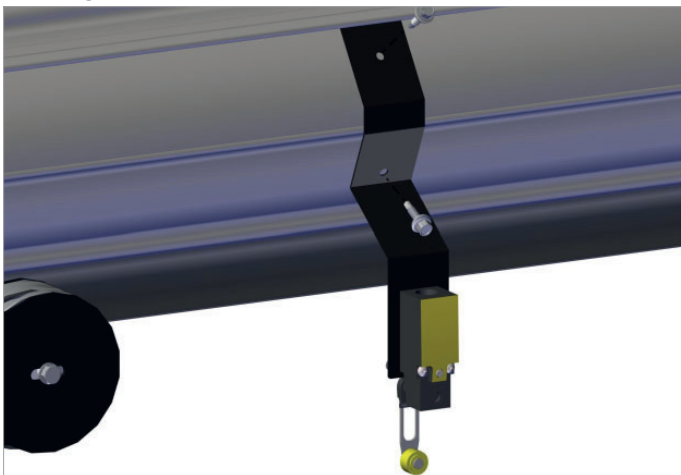

Fig. 5.3.7 Mounting the CRS Auto Return Switch bracket
- Mount the CRS Auto Return Switch bracket 1 in. (20 mm) next to the stop bracket self-tapping screws 6,3 x 25. Refer to fig. 5.3.7.